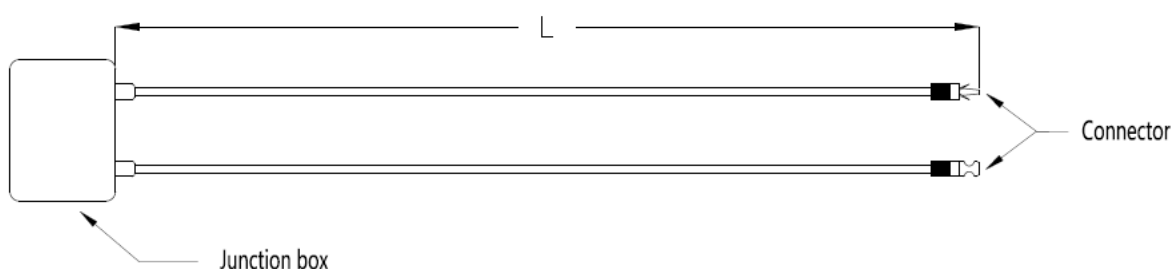

Figure 9: Junction box
- h) The cable of the junction box is defined as L, as showed below in Figure 9. For Jinko standard module, L is 900/1200mm; and for customized module, L can be